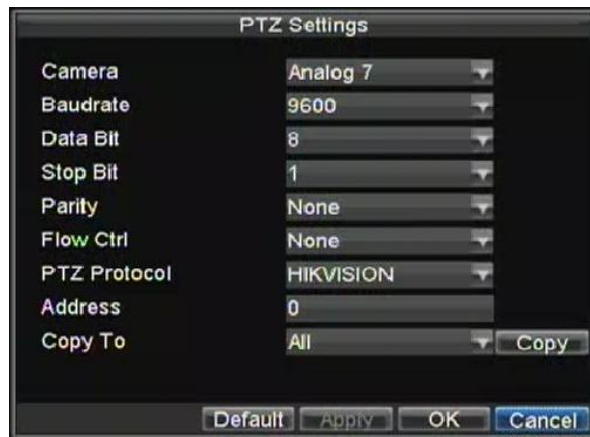

Figure 2. PTZ Settings Menu
1. Enter the PTZ Settings menu by clicking Menu > Setting > PTZ. The PTZ Settings menu is shown in Figure 2.